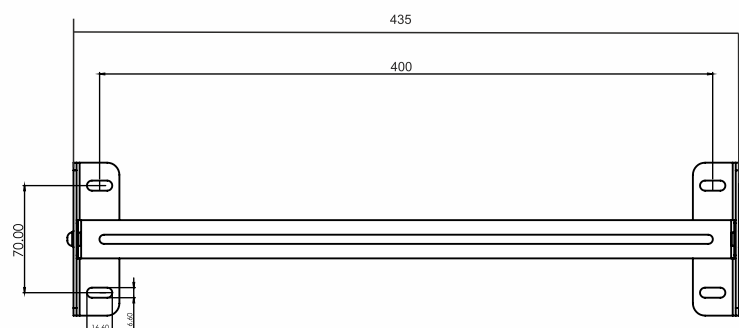

Fig. 5.3 Mounting Brackets for KLP GT
1. Connect the mounting plate strip to the mounting brackets and then mark the Positions of the Drill Holes of the wall mount bracket. The mounting position should be marked as shown in Figure 5.3 & 5.6